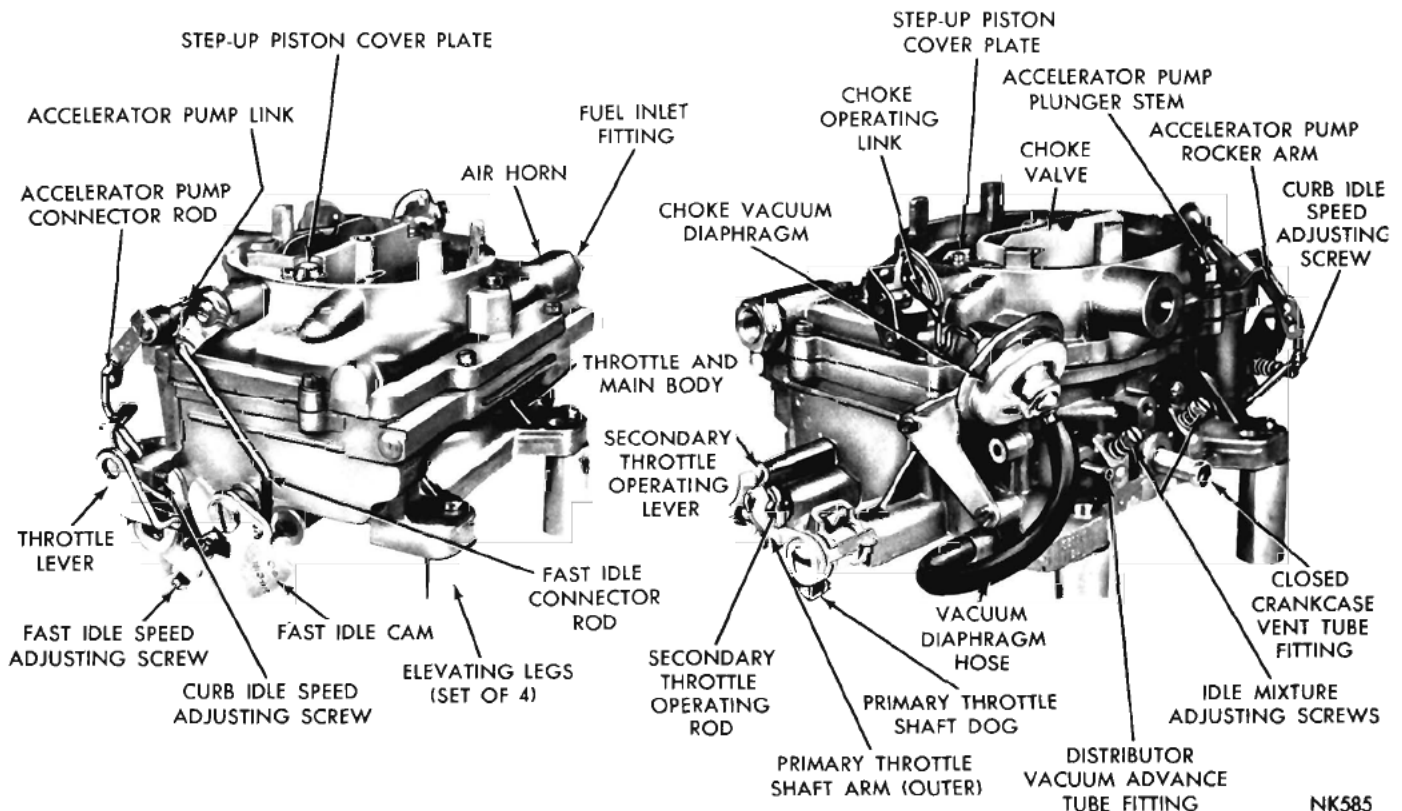
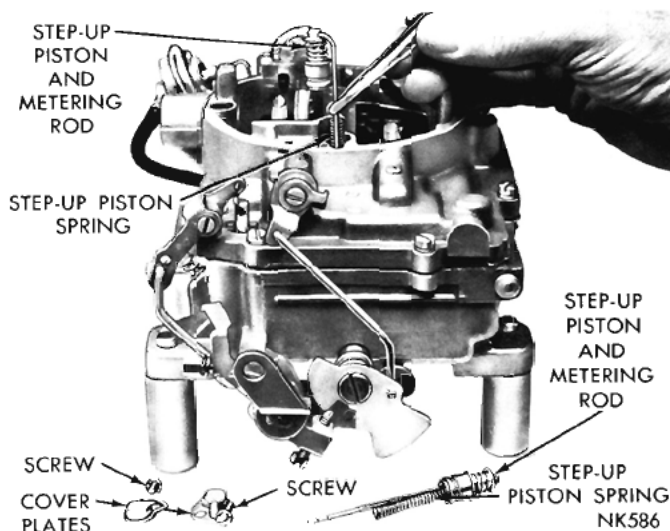

Fig. 1—Carburetor Assembly (AFB)
Fig. 2—Removing or Installing Step-Up Pistons and Rods
To disassemble the carburetor for cleaning or overhaul, refer to (Fig. 1), then proceed as follows:
(1) Place the carburetor assembly on repair stand Tool C-3400 or T-109-287S elevating legs. These tools are used to protect the throttle valves from damage and to provide a suitable base for working.
(2) Remove the hairpin clip that attaches the fast idle connector rod to the choke lever. Disengage rod from lever, then swing rod at an arc until it can be disengaged from the fast idle cam.
(3) Remove the clevis pin that holds the throttle connector rod in the center hole of the accelerator pump arm. Remove the hairpin clip that attaches the lower end of rod in the primary throttle shaft lever. Disengage rod from arm and lever, then remove from carburetor.
(4) Remove the screws attaching the step-up piston and rod cover plates. **Hold cover down with a finger to prevent the piston and rods from flying out.** Lift off the plates and slide the step-up pistons and rods out of the air horn, as shown in (Fig. 2). Remove the step-up piston springs.
(5) Remove the vacuum hose between the carburetor or throttle body and the vacuum diaphragm.
(6) Remove the clip from the choke operating link and disengage the link from the diaphragm plunger (stem) and the choke lever. Refer to (Fig. 1).